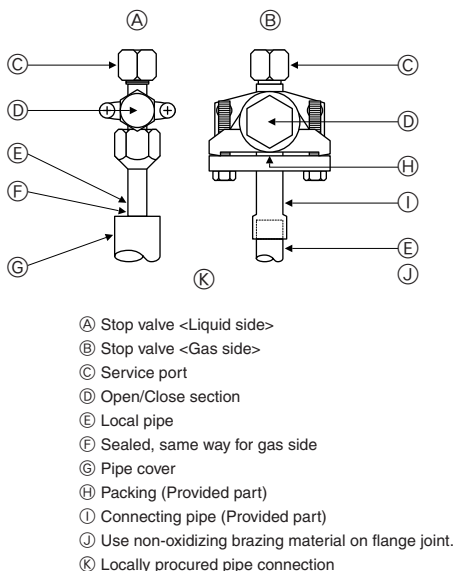

Fig. 5-5
5.4. Refrigerant pipe airtight testing method (Fig. 5-5)